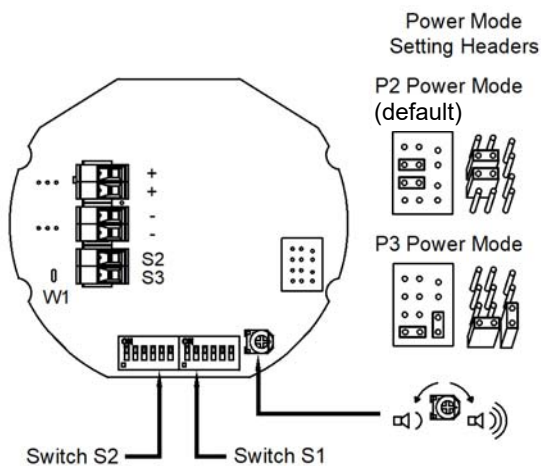
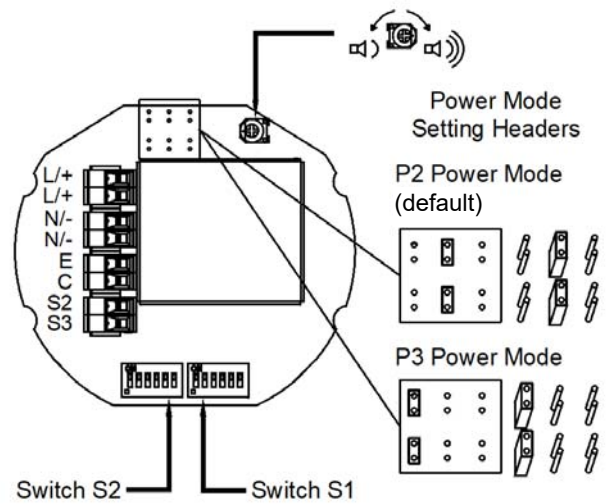

Figure 5: DC PCBA.
Figure 6: AC PCBA .
- Fit an M20/NPT suitably rated cable gland or conduit entry into the hole in the enclosure and connect the field wiring to the appropriate alarm horn terminals as shown in fig. 6 (AC) or fig 5 (DC). The power supply terminals are duplicated so that units may be connected in parallel. An end of line monitoring resistor may be fitted to DC units only (see section 12). If the second and third M20/NPT entries are not used, suitably rated stopping plugs must always be fitted.
The D1x Alarm Horn Sounders have 64 different tones that can be selected independently for the first and second stage alarms. The tones are selected by operation of the tone setting DIP switch 1 & DIP 2 switch 2 (see figures 6 and 7) on the PCB, for stage 1 and stage 2 respectively.